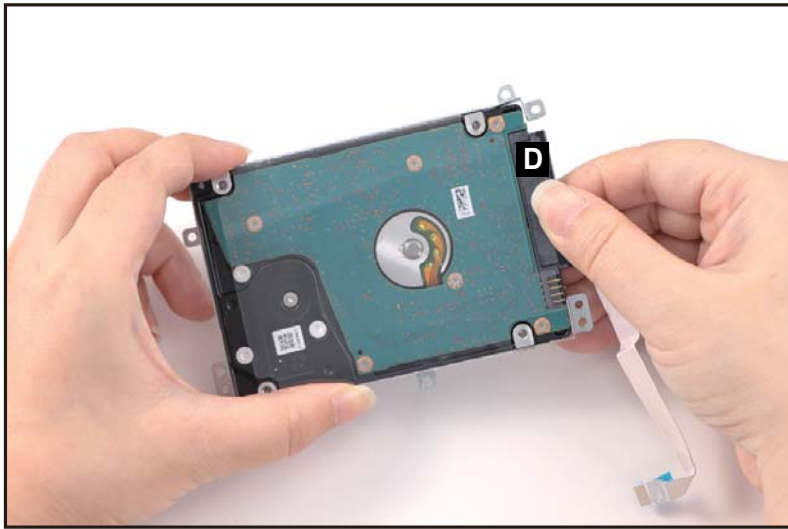

Figure 1-28. HDD Module Removal
4. Disconnect the HDD cable from the HDD module connector (D) (Figure 1-28).